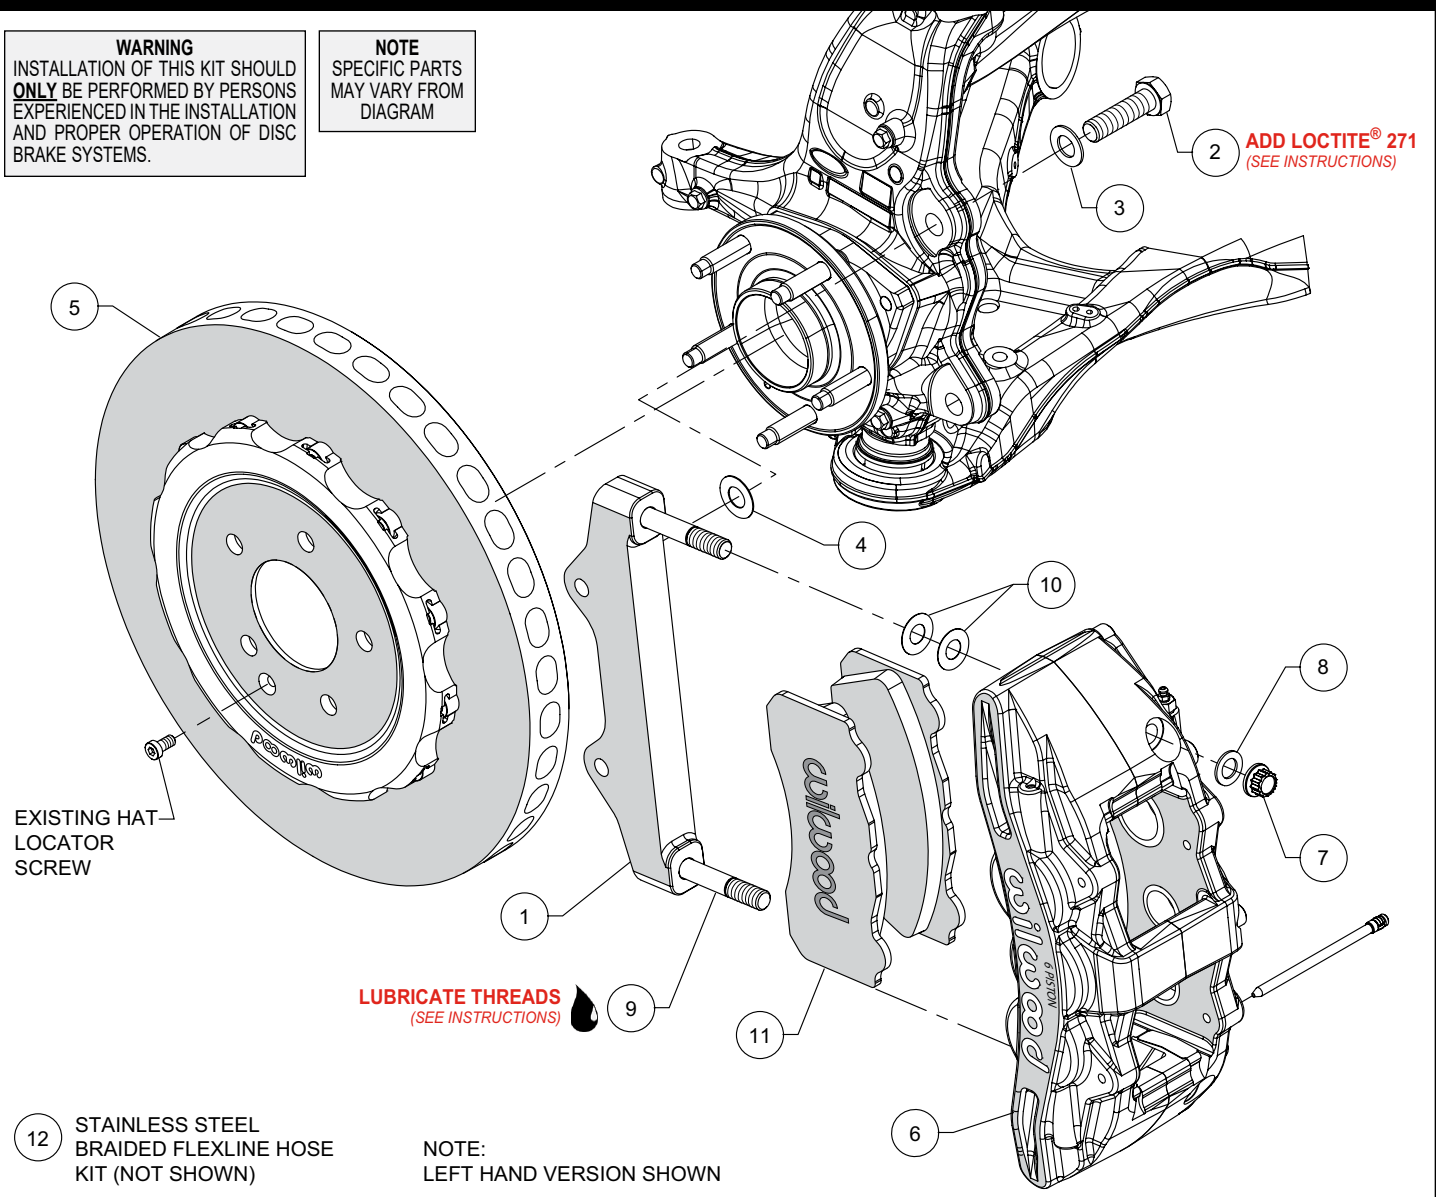

Figure 1. Typical Installation Configuration
NOTE: Numbers in parenthesis refer to the parts list and Figure 1 on the preceding pages.
- The caliper mount bracket (1) should initially be installed with clean, dry threads on the mounting bolts. Orient the bracket, as shown in Figure 1 and Photo 1, and install using bolts (2) and washers (3). Initially place one .029" thick shim (4) on each bolt between the bracket and upright, Figure 1. Temporarily tighten the mounting bolts. **NOTE:** The bracket must fit squarely against the mount bosses on the upright. Inspect for interference from casting irregularities, machining ridges, burrs, etc. Later, after the caliper alignment has been checked, the mount bolts will be secured using red *Loctite*® 271.
- Slide the hat/rotor assembly (5) onto the axle hub. **NOTE:** The hat must fit flush against the axle hub flange or excessive rotor run out may result. Install the hat locator screw (OEM), as shown in Figure 1 and Photo 2, to keep the hat/rotor assembly in place while continuing with the installation.
- NOTE:** This kit contains distinct right and left hand calipers that must be mounted in a specific direction, as described below. Lubricate the caliper mounting studs (9) with lightweight oil. Initially place two .015" thick shims (10) on each stud between the caliper and the bracket, as shown in Figure 1 and Photo 3. Mount the caliper (6) onto the bracket (1) using lock nuts (7) and washers (8), Figure 1. Temporarily tighten the lock nuts. Ensure that the caliper is mounted so the largest pistons are at the rotor exit end of the caliper, in relation to the direction of the rotor. View the rotor through the top opening of the caliper. The rotor should be centered in the caliper, Photo 4.
- Remove the two pad retaining pins from the caliper (6) by pushing out the pins from the tapered end using a blunt instrument. Insert the brake pads (11) into the caliper from the bottom, Figure 1